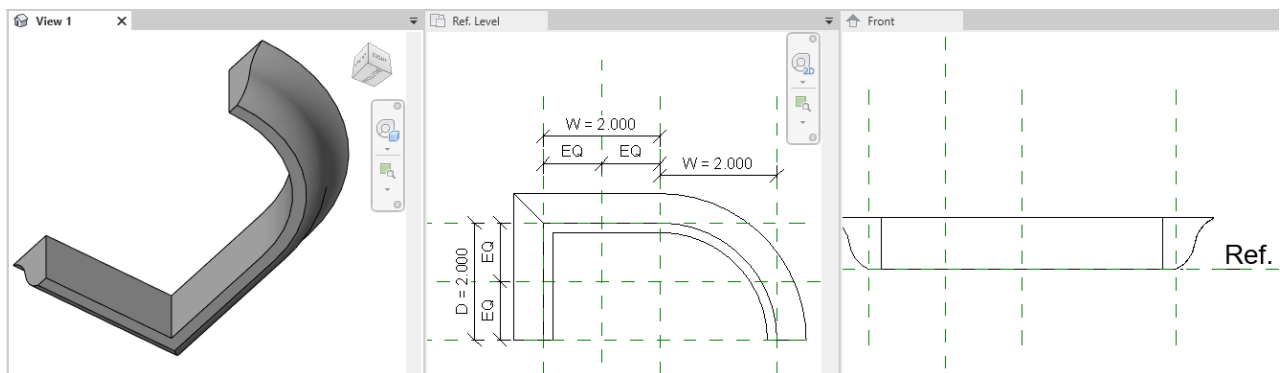

Figure 38—Test the profile family in the sandbox file
14. Select the sweep and edit it. On the ribbon, click the Select Profile button and then from the drop-down list, choose one of the types you previously defined (see Figure 38).